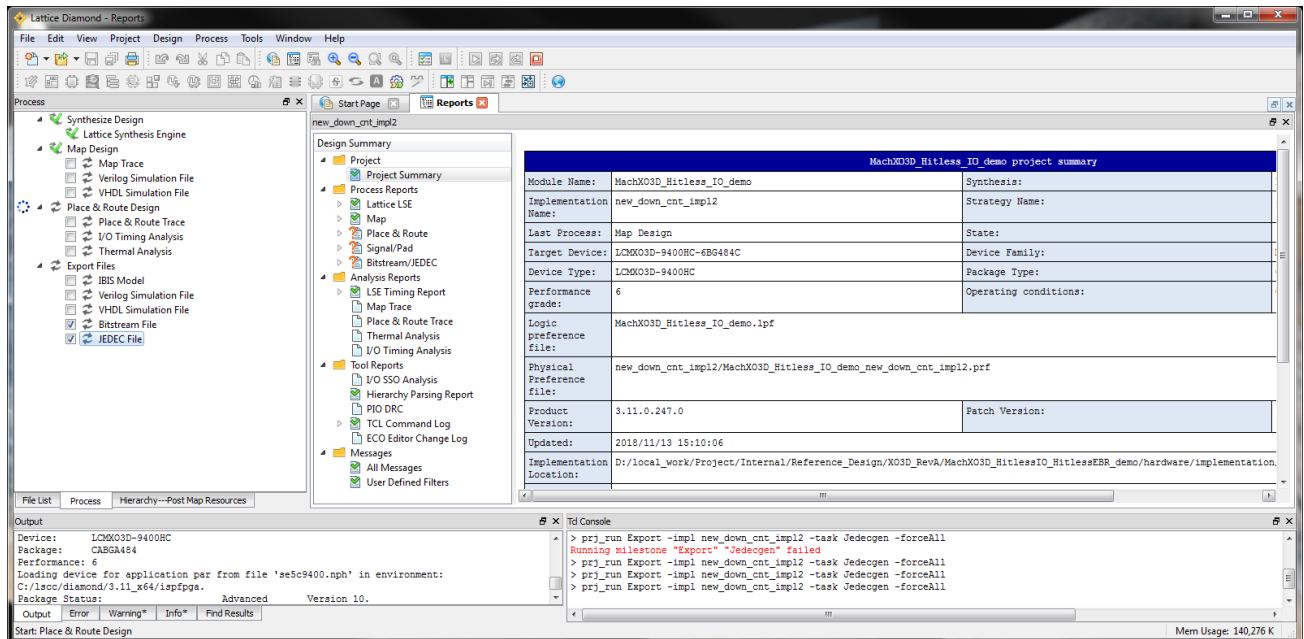
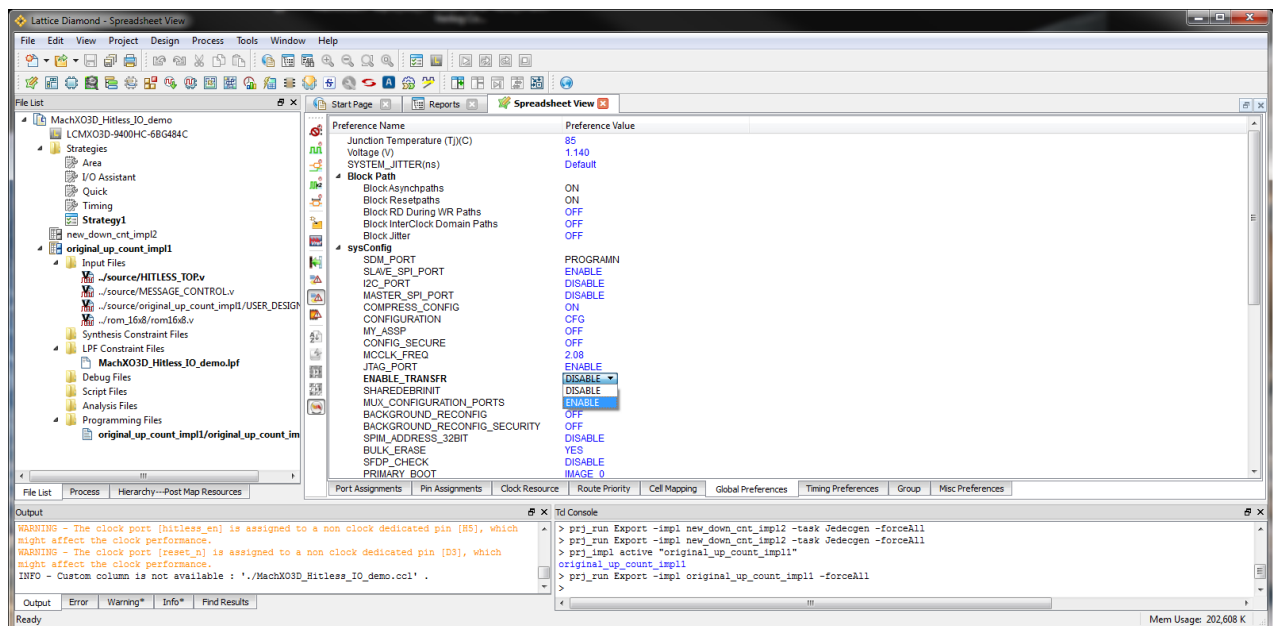

Figure 7.3 Synthesize Design Process
Figure 7.4. Enable Transfer
- Run the **Synthesize Design** process for the design and make sure there are no errors. When you see the green checkbox beside **Synthesize Design** (Figure 7.3), invoke **Spreadsheet View** (Figure 7.4) by clicking the **Spreadsheet View** icon() from the toolbar, or select **Tools > Spreadsheet View** from the menu.
- In the **Global Preferences** tab of Spreadsheet View, make sure that the **ENABLE_TRANSFR** feature is enabled (Figure 7.4). Save any changes to Spreadsheet View using **File > Save**.